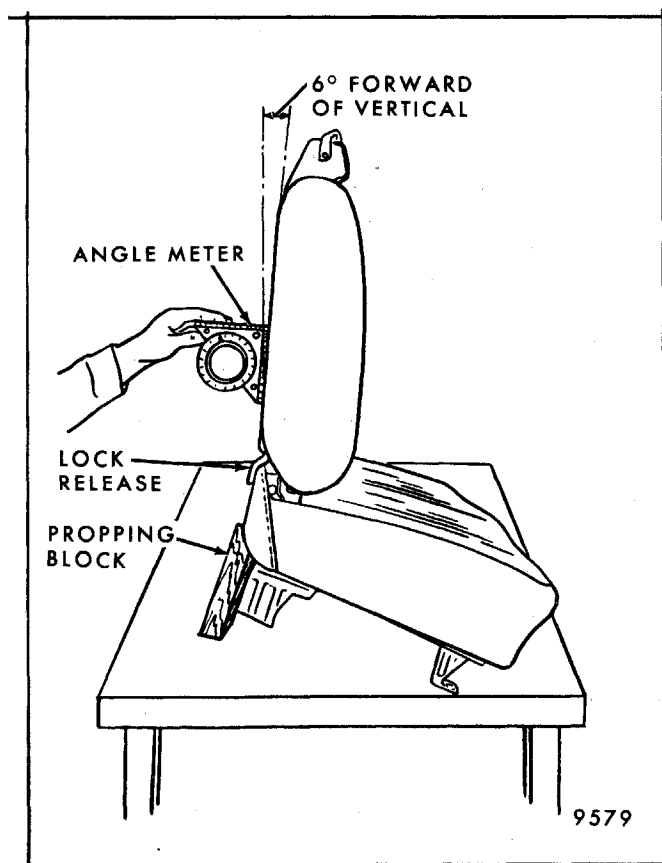

Fig. 9-64 - Front Seat Back Inertia Lock Check - Out of Vehicle
2. Raise rear of seat until seat back is 6° forward of vertical position (Fig. 9-64) and place blocks under rear of seat to hold seat in this position. Use "angle meter" as shown in Fig. 9-64. Angle meter can be purchased at hardware or department store.